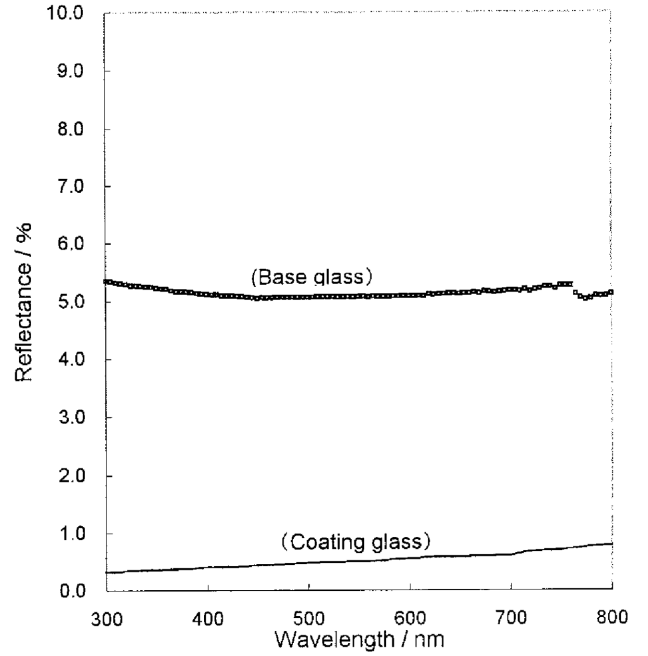

Fig. 3 Reflectance vs. wavelength (AR coated glass)
3) The synergism between the non-glare effect taking advantage of surface scattering and antireflective effect due to the addition of low refractive material ensures excellent antireflective performance in a wide range of wavelength (Figure 3).